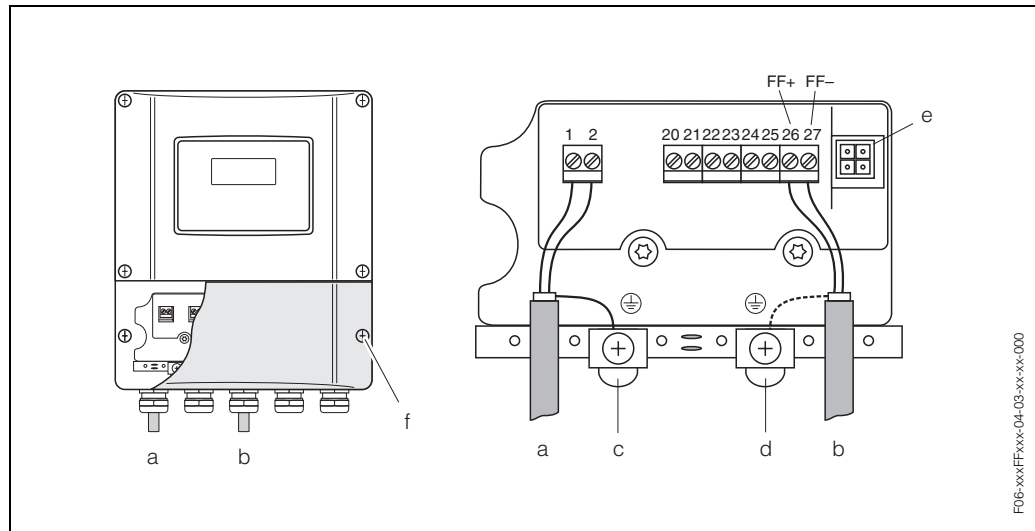

Fig. 34: Connecting the transmitter (wall-mount housing). Cable cross-section: max. 2,5 mm²
- Wiring diagram (wall-mount housing) → Fig. 34